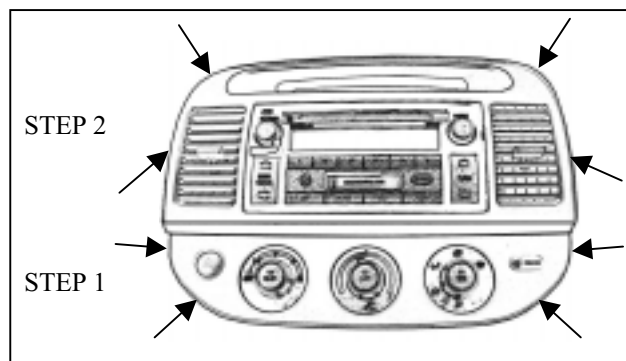

Figure A1
3. Remove AC/Heat control panel (Step 1 in Figure A1). Pry four clips using nylon pry tool. Then disconnect wires from AC/Heat controls. Clip location is depicted by arrows in Figure A1.
4. Remove AC Duct faceplate (Step 2 in Figure A1). Disconnect clock wire harness.